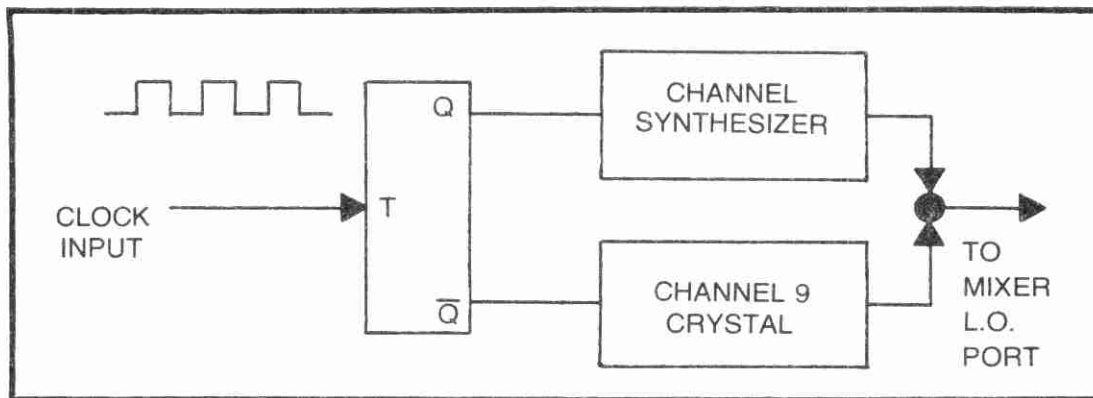

Fig. 31-1. CB receiver uses electronic switch to scan Channel 9 and main channel.
national emergency channel (9). The digital logic oscillator back and forth between the regular receive channel and channel 9. An increase in the automatic gain control (agc) voltage, indicating that a station is being received on channel 9, causes the scanner to stop switching and latch onto the channel-9 signal. Basic operation of the circuit is shown in Fig. 31-1. A digital-logic element, called a JK flip-flop, selects which local oscillator controls the reception at any given instant in time. An *inhibit* signal causes the circuit to latch when the agc voltage on channel 9 is above a preset level.